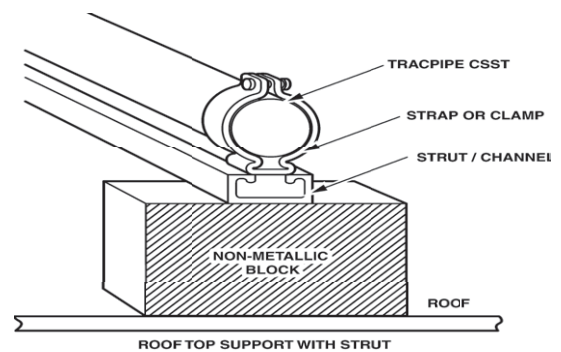

Figure: 4-36
3. **TracPipe® CounterStrike®** may be supported with strut/channel running from block to block beneath the flexible gas pipe. Galvanized shallow channel (13/16 inch) with splice plates at joints and bends provides a secure, damage resistant “track”. With metallic strut support, blocks can be reduced to every 8 feet. The **TracPipe® CounterStrike®** should be firmly attached to each block with metallic clamps designed for the strut or appropriate fastening mechanism. Figure: 4-36. Black cable ties (UV resistant) at intermediate points facilitate rolling out the **TracPipe® CounterStrike®**.